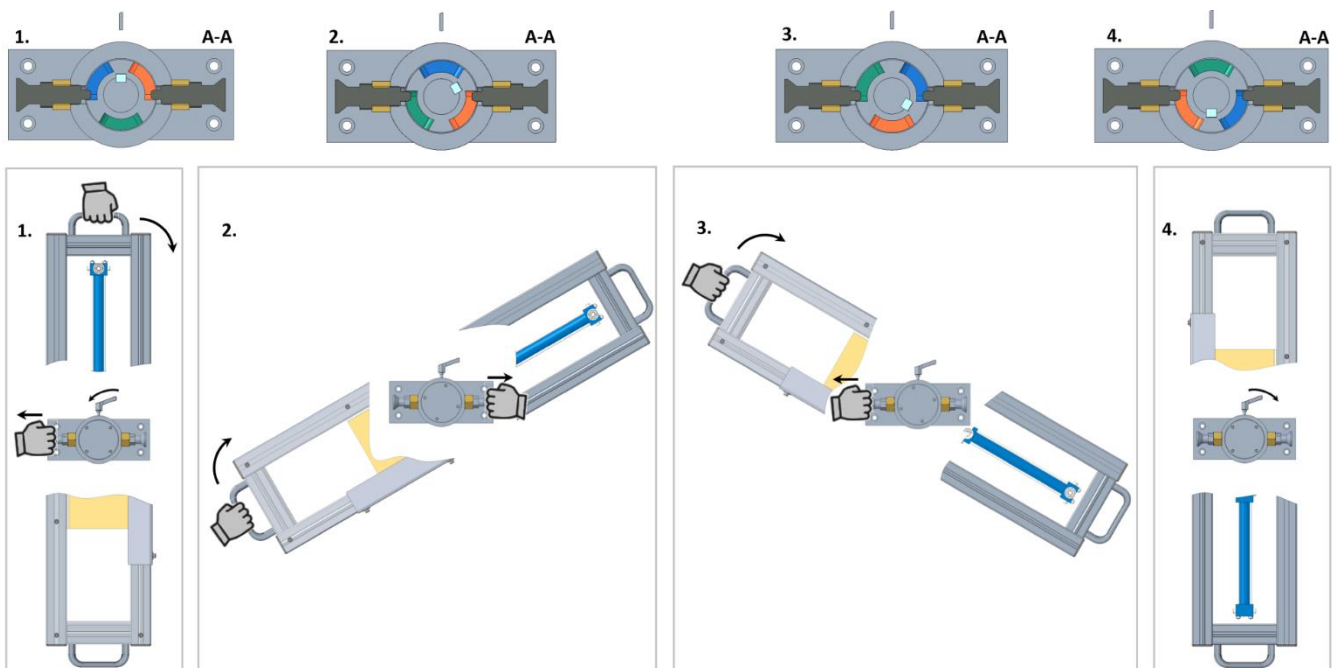

Fig.36: Handling steps to swivel the load unit
2. Firmly grip the upper handle of the load unit with one hand. With the other hand, pull the left release lever (Fig.36: 1. A-A). The load unit can now be turned to the right within the red groove (Fig.36: 1. A-A). Continue turning until the left release lever engages in the next groove (green, Fig.36: 2. A-A).
3. Firmly grip the lower handle of the load unit with one hand. With the other hand, pull the right-hand release lever (Fig.36: 2. A-A). The load unit can now be turned to the right within the green groove (Fig.36: 2. A-A). Continue turning until the right-hand release lever engages in the next groove (blue, Fig.36: 3. A-A).
4. Keep one hand on the lower handle of the load unit. With the other hand, pull the left unlocking lever (Fig.36: 3. A-A). The load unit can now be turned to the right within the blue groove (Fig.36: 3. A-A). Continue turning until the left unlocking lever engages in the next groove (red, Fig.36: 4. A-A).